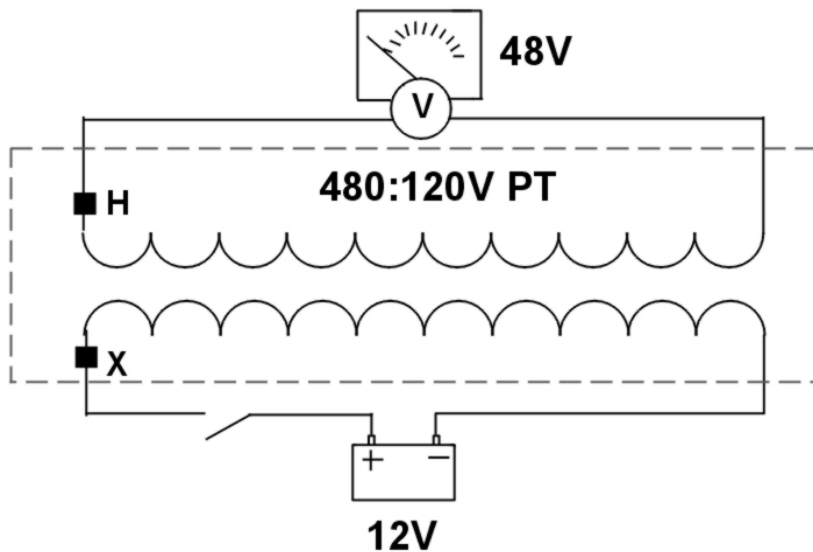

Figure 6
- a. To test polarity using DC voltage, a lantern battery and a voltmeter with an analog scale is required. Use the following steps for DC polarity testing as shown in Figure 6: